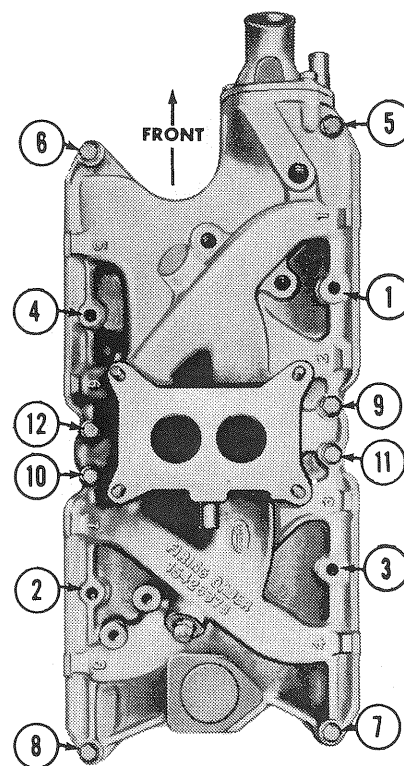

FIG. 44 Intake Manifold Bolts Tightening Sequence — 302 CID Engine
5. Be sure the holes in the manifold gaskets and manifold are in alignment. Install the intake manifold attaching nuts and bolts. Tighten the nuts and bolts in two steps (Figure 44 or Figure 15). Tighten all nuts and bolts in sequence to specifications.